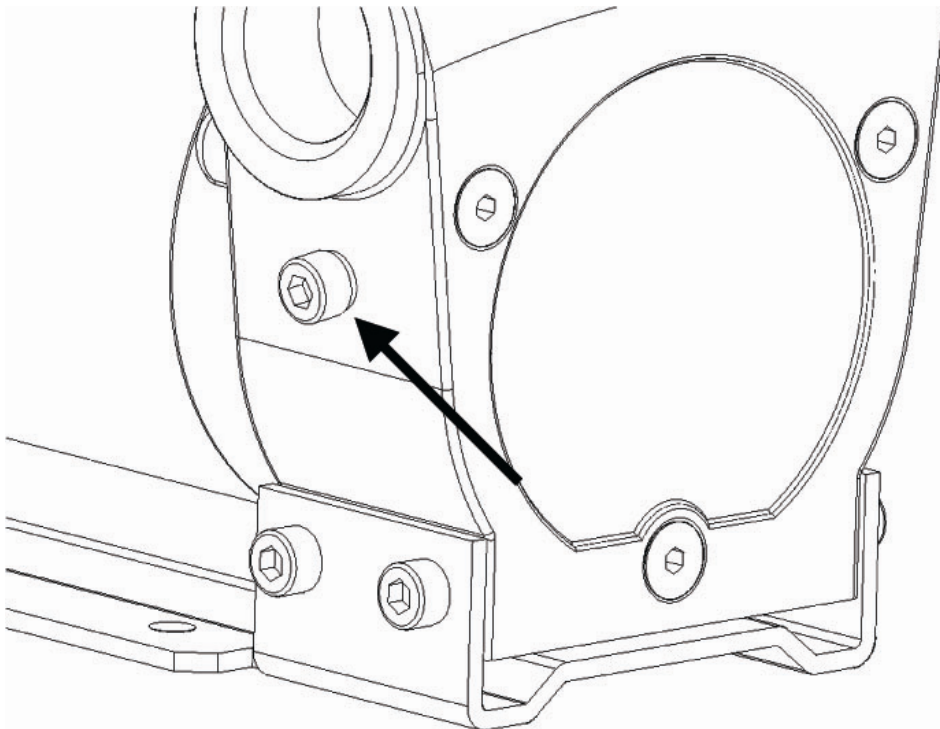

Figure 3-1: Siphon Protection boring with blanking screw (as delivered)
- Remove the bolt screwed into the side of the pump housing, together with the seal (see Fig.3-1).